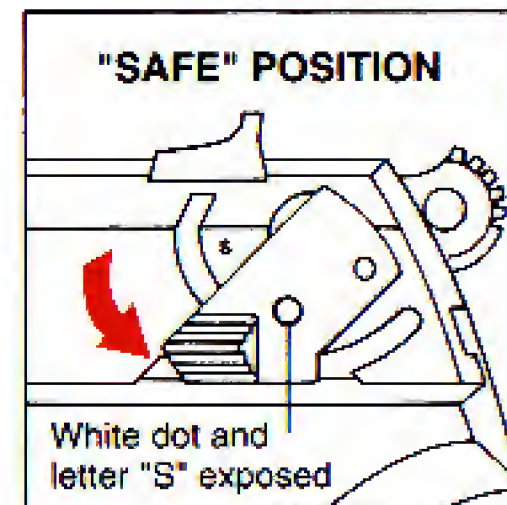

FIGURE 1
The pistol can and should be loaded and unloaded with the safety engaged in its "safe" position (lever fully down, white dot and the letter "S" exposed). The safety should be in its "safe" position at all times except when the user is deliberately positioned to fire at a selected target. See Figures 1 and 2, below, which illustrate the two positions of the safety.
2. Move either the right- or left-hand safety lever fully downward to its "safe" position so that the letter "S" and the white dot are fully exposed. (See Figures 1 and 2 on page 5).
4. For the 9mm P89 and P94 pistols, place ten (10) or fewer 9mm x 19 Parabellum cartridges into the magazine from the top.
The trigger is inoperable when the safety is fully engaged in its "safe" position (lever fully down, white dot and letter "S" exposed; see Figure 1 on page 5).
7. If the pistol is not to be fired immediately, the safety should remain in its "safe" position (see Figure 1, p. 5).
1. The muzzle of the pistol must be pointing in a safe direction at all times, and fingers should be outside of the trigger guard. Put the safety in its "safe" position (see Figure 1 on page 5) by rotating the safety fully downward until the letter "S" is fully exposed and the white dot shows. The safety can be engaged whether the pistol is cocked or not.